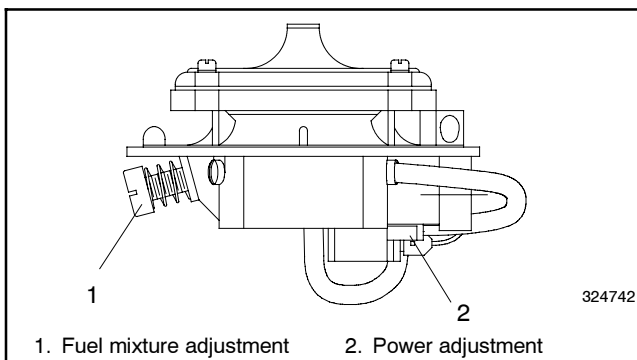

Figure 9-50 30–80 kW with Nolf NCA-225M and NCA-125M Style Fuel Mixers
- b. **30–80 kW generator sets.** Nolf NCA-225M and NCA-125M style gas mixers used on early versions of 30–60 kW 4.3 L and 5.7 L GM engines, 30–60 kW LP liquid withdrawal systems, and 80 kW 8.1 L GM engines. See Figure 9-50.
- Adjust the fuel mixture adjustment (Figure 9-50) to obtain a full load oxygen sensor voltage reading in the range specified in Figure 9-44.